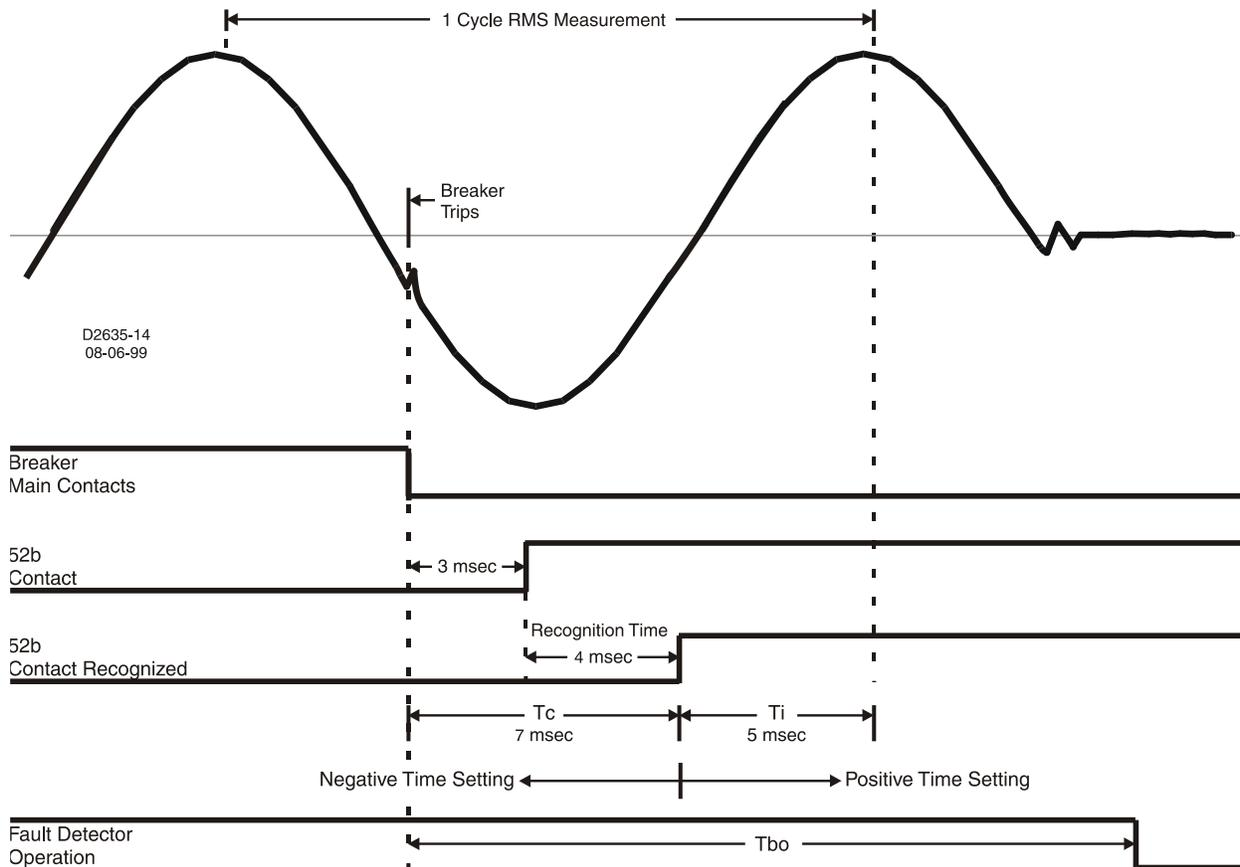

Figure 10. T_c and T_i Timing Diagram
3. Set the Tc parameter of the BKRCON command for a breaker whose 52b contact closes 3 milliseconds after the main contacts part. Recognition time for the 52b contact has been set at 4 milliseconds using the LI command. Note that Tc is set as the sum of the 52b recognition time setting and the 52b contact delay. (-3-4=7 ms). Set Ti for 5 milliseconds after the 52b contact is recognized. The timing diagram is shown in Figure 10.